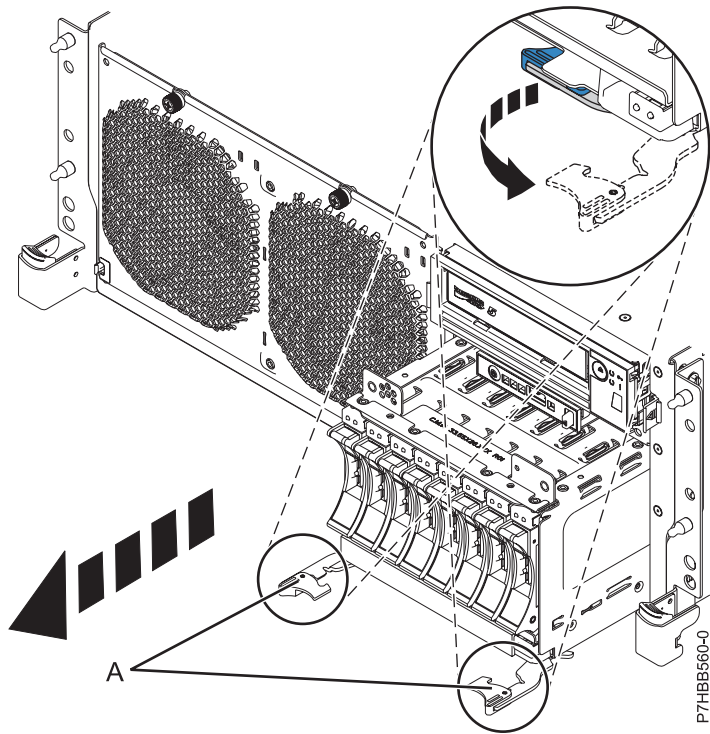
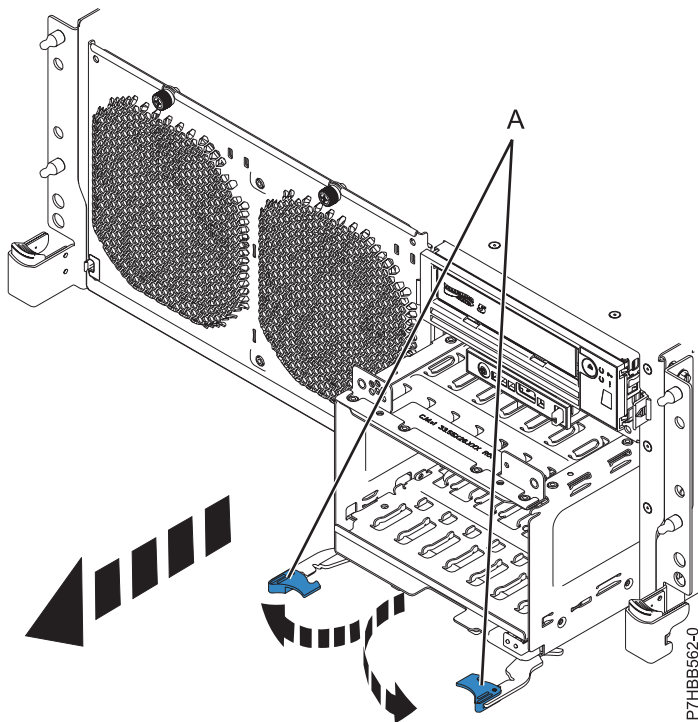

Figure 24. Removing the backplane that is populated with disk drives
Figure 25. Removing the backplane that is not populated with disk drives
16. Unlock the disk drive backplane by pulling the handles (A) open from the center of the backplane as shown in Figure 24 on page 47 and Figure 25 on page 47.